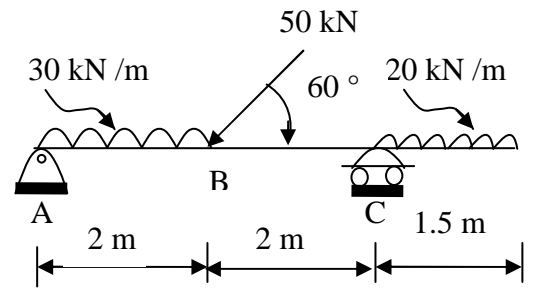

Fig.4 Q.4 (b)
- (b)** Find support reactions for the beam shown in the fig.4 **04**